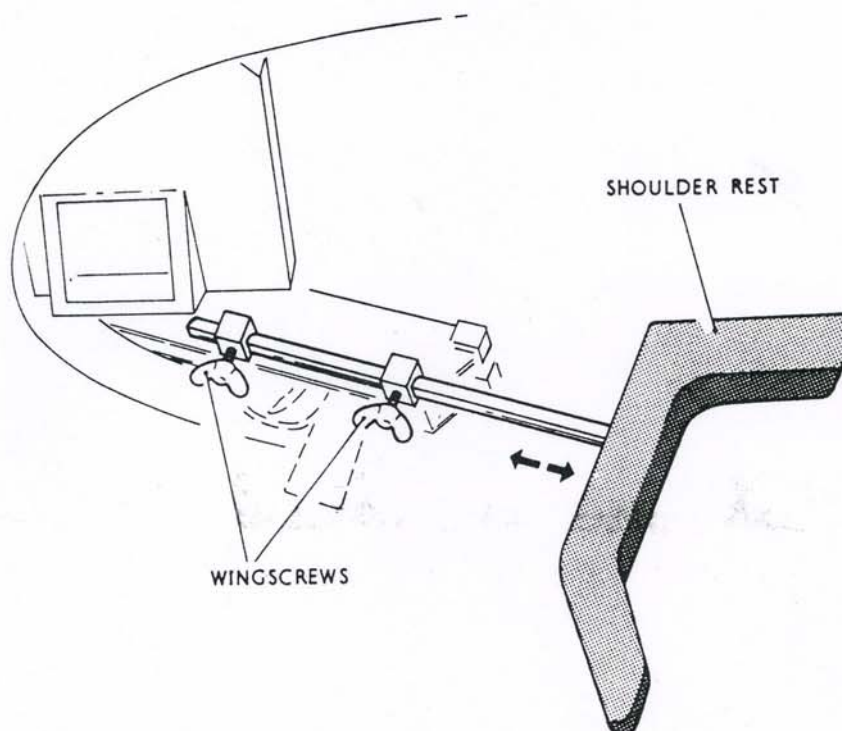

Fig. 2-2 Gun shoulder rest adjustment
2. Gun shoulder rest adjustment (Fig. 2-2)